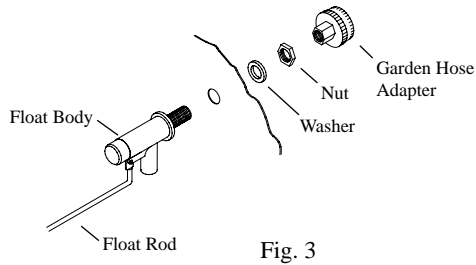

Fig. 3
- **Install float valve.** Refer to figure 3. Install the valve in the provided hole in the corner post ((R)M301A, (R)M401A) or louvered side (M201A) using the provided washer and nut. Install the included garden hose adapter to the float as shown if attaching a garden hose to the unit. A 1/4 inch water line may also be used to supply a continuous amount of water to the unit.